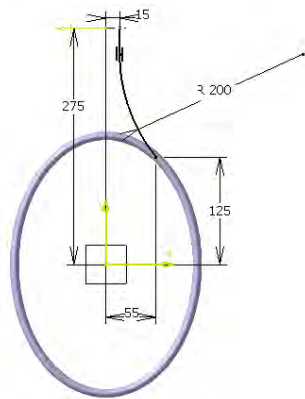

Figure 9-61 The sketch of the guide curve for creating the second sweep feature
- c. Create the second swept surface, refer to Figures 9-61 through 9-63.
2. Draw the guide curve, as shown in Figure 9-61.